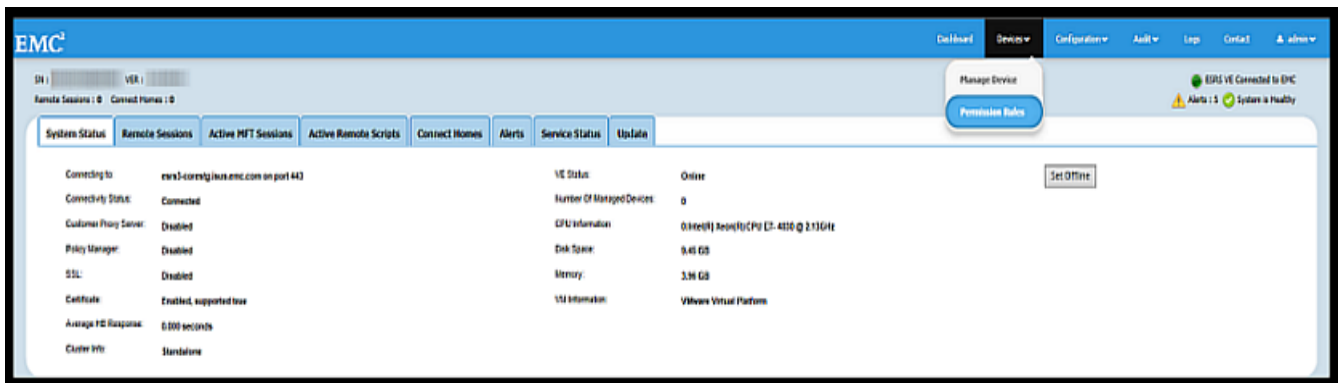

Figure 35 Selecting Permission Rules
1. Go to **Devices > Permission Rules**, as shown in Figure 35.